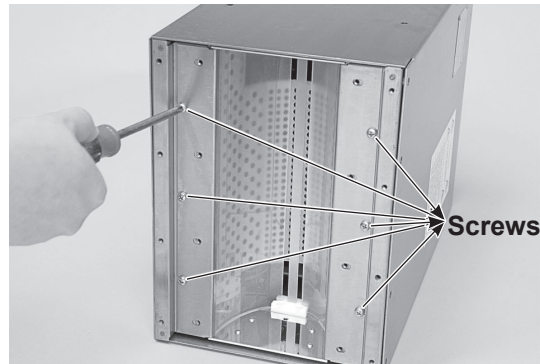

Figure 6-7 RF Screen Removal
4. See Figure 6-7. Loosen the six mounting screws, then remove the two retaining brackets from the lamphead base.